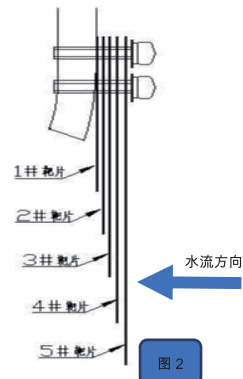

图 2
2，流量开关出厂时附有 1#、2#、3#、4#和 5#靶片，用户可根据需要进行选装。如需要其他尺寸的靶片，可根据自行条件进行修剪。例如：如使用 3" 管道，则就要安装 1#、2#、3#靶片，见图 2 所示。如使用 1-1/2" 管道，则需根据安装底座平面到管底的尺寸修剪，以不碰管底适合长度即可。
管道直接大于 5#靶片总长，则将 1#至 5#靶片全部安装。如图 2 所示的是靶片正确安装位置。
① is the public side, When the flow increase, Connect with ③ contact; and when the flow decrease, Connect with ② contact.
2. The flow switch comes with 1#, 2#, 3#, 4# and 5# target plates when it leaves the factory. Users can select and install them according to their needs. If the target of other dimensions is needed, it can be pruned according to its own conditions. For example, if the 3 "pipe is used, the 1#, 2#, and 3# target films will be installed, as shown in figure 2. If the 1-1/2 "pipe is used, it shall be trimmed according to the size from the installation base plane to the bottom of the pipe, so as not to touch the bottom of the pipe to suit the length.
If the total length of the pipe is directly greater than 5# chips, all # 1 to # 5 targets will be installed. As shown in figure 2, the correct installation position of the target is shown.